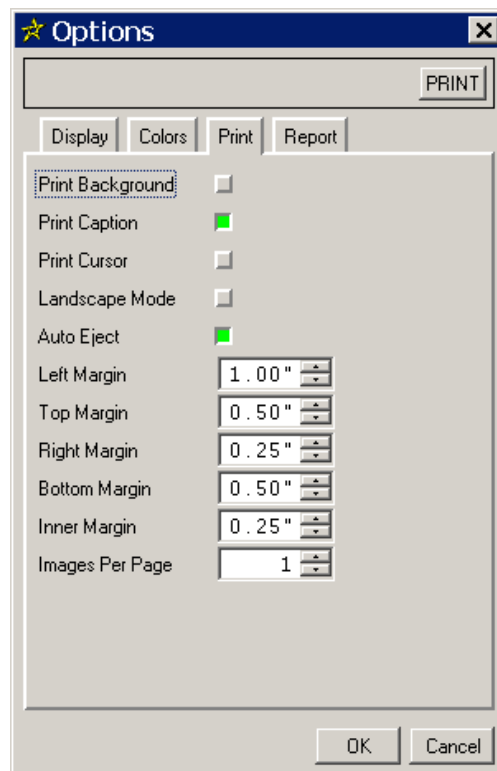

Figure 1-7. Options Dialog - Print Tab
STEP 5: Modify the settings to match the ones shown in Figure 1-7.